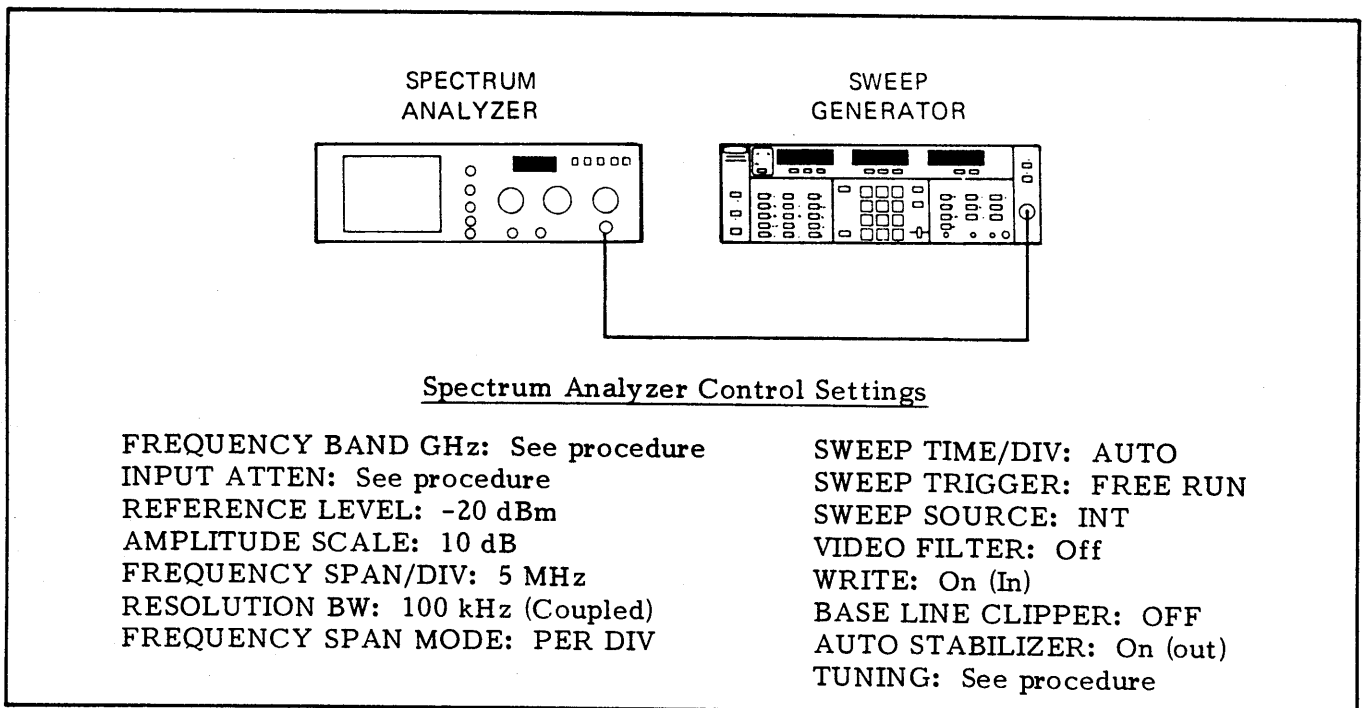

Figure 5-10. Test Equipment Setup For Frequency-Band Overlap Test
1. Connect equipment as shown in Figure 5-10, and turn the equipment on.